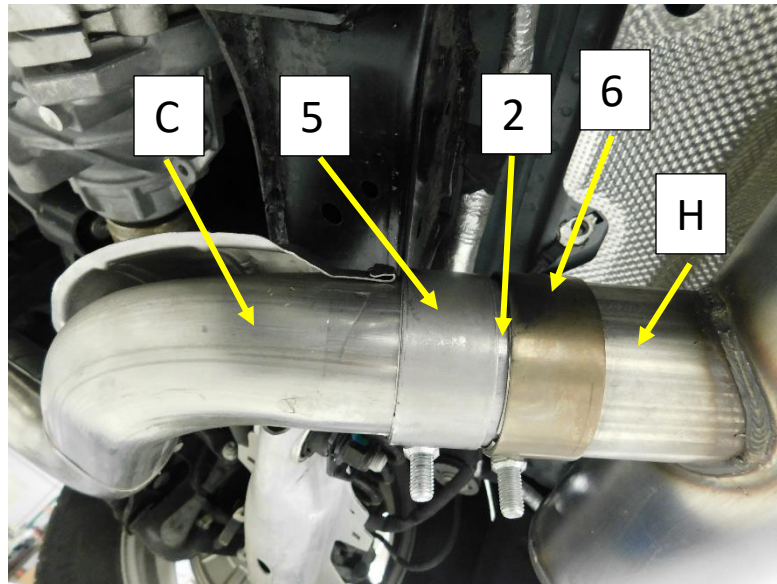

Figure.8
2. Install adaptor pipe "A" (2) (no step down) into the muffler inlet pipe (H). **Fig.8**
3. Install the provided 63mm band clamp (5) over the OEM exhaust pipe (C) with the bolt to the right and the nut facing down. **Fig.8**
4. Align the muffler adaptor pipe (2) to the OEM Exhaust pipe and slide the adaptor pipe down and over the OEM exhaust pipe and into the band clamp (5). Slide the adaptor down until it touches the rolled heatshield edge. **Fig.8**
5. Install the band clamp over the Z-Notched end of the adaptor pipe and tighten as close to the end of the pipe as possible. **Fig. 8**